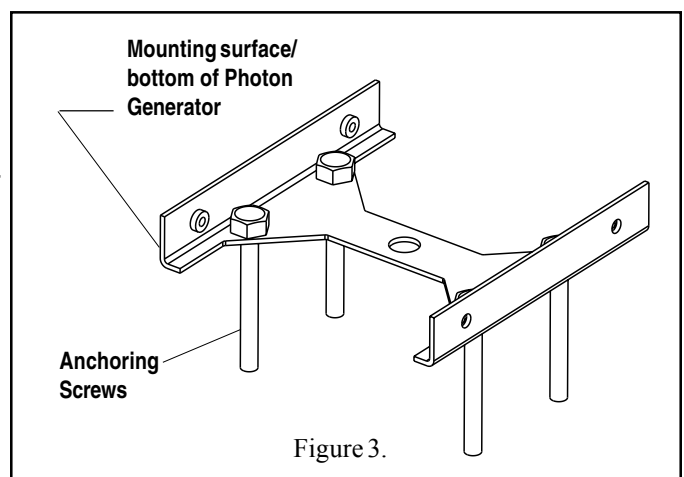

Figure 3.
- d. Secure the “H” bracket to the concrete pad with screws or Tapcons; see Figure 3.